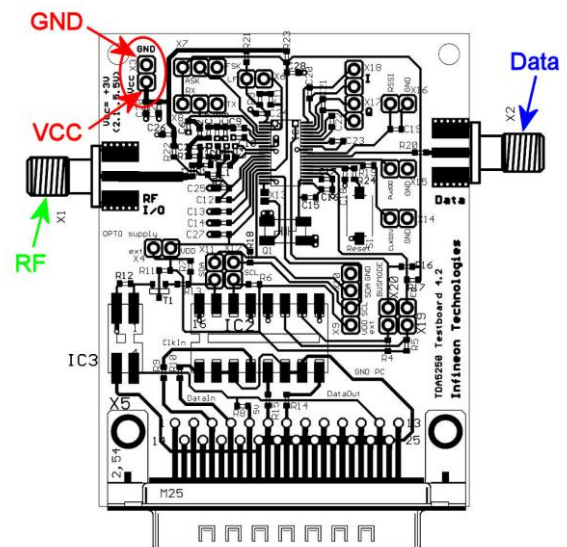

Figure 3: Connectors
- Apply a supply voltage of 3V (2.1V to 5V) to connector X3 (for polarity see Figure 3 below or Figure 4-4 of the Data-Sheet).
- Apply an antenna or RF-signal generator on the 50 Ω RF-connector (X1; see Figure 3 below or Figure 4-4 of the the Data-Sheet) if the RX-mode is selected (via RX/TX-Jumper). Use an ASK-modulated or FSK-modulated RF-signal according the mode selected by the jumper of the ASK/FSK-multi-pin connector.
- Apply an antenna or Spectrum-Analyzer to be able to measure the spectrum, for instance, on the 50 Ω RF-connector (X1; see Figure 3) if the TX-mode is selected (via RX/TX-Jumper).
- Connect the Data Input/Output (X2; see Figure 3) to an Oscilloscope, for instance, to be able to measure the data output signal, in case of RX-mode (via RX/TX-Jumper) is selected.
- Apply a data signal, a PRBS9-sequence or just a rectangular signal on the Data Input/Output (X2; see Figure 3) if TX-mode is selected. For data signal Low- and High-level see the Data Sheet.
- The **TDA525X Evaluation Board** has to be supplied by an external power supply of 3V (2.1V to 5V) via connector X3. For the polarity of X3 see also Figure 3.
- Apply an antenna or RF-signal generator on the 50 Ω RF-connector (X1; see Figure 3) if the RX-mode is selected. Use an ASK-modulated or FSK-modulated RF-signal according the selected mode.
- Connect the Data Input/Output (X2; see Figure 3) to an Oscilloscope, for instance, to be able to measure the data signal, in case of RX-mode (via RX/TX-Jumper) is selected.
- Apply a data signal or just a rectangular signal on the Data Input/Output (X2; see Figure 3) if TX-mode is selected. For data signal Low- and High-level see Data Sheet.